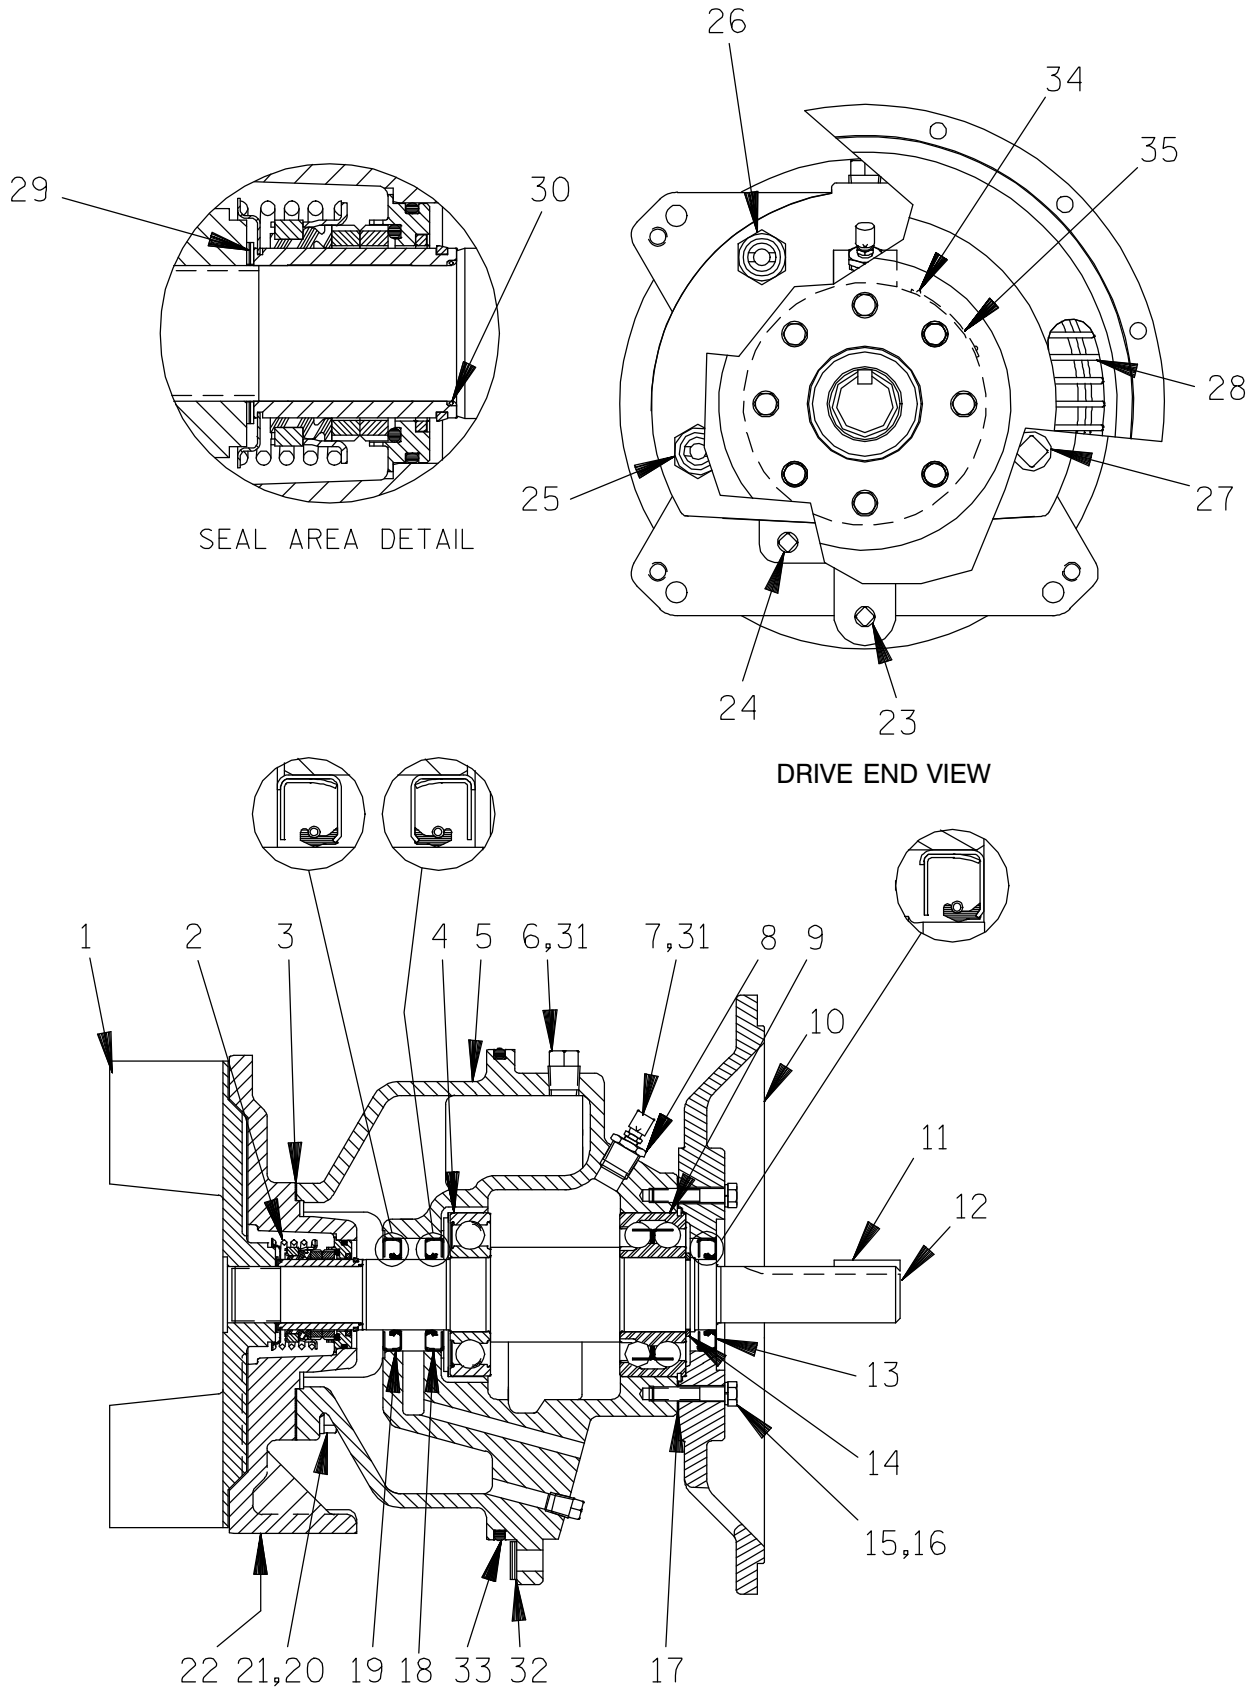

Figure 4. 44163-485 Repair Rotating Assembly
Disengage the hardware (6 and 7) securing the drive flange to the engine bellhousing, and remove the guards (28, Figure 4). Separate the pump end and drive assembly from the engine by pulling the pump end straight away from the engine.
As the assemblies separate, the flexible portion of the coupling assembly (3) will remain on the shaft. To remove the coupling from the shaft, unscrew the two allen head setscrews from the bushing (2). Screw one of the setscrews into the puller hole on the circumference of the bushing. As the coupling and bushing separate, remove the bushing, and slide the coupling off the shaft. Remove the shaft key (11, Figure 4).
#### (Figure 4)